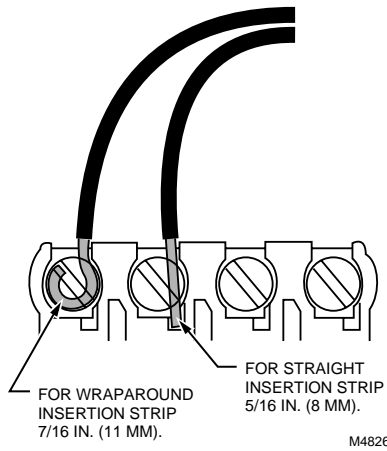

Fig. 9. Proper wiring technique.
1. Loosen the terminal screws on the subbase or wallplate and connect the system wires. See Fig. 9.